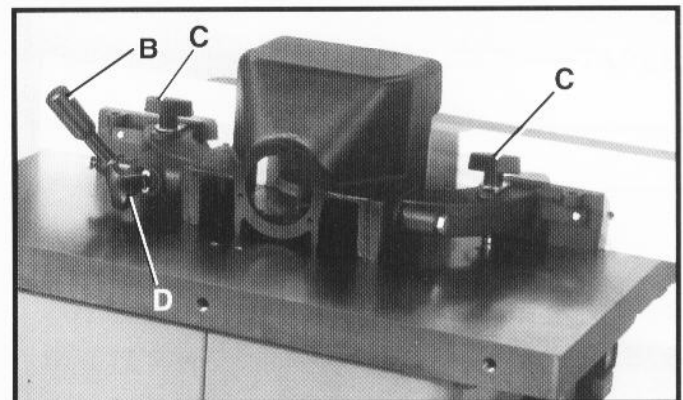

Fig. 25
Each section of the fence can be moved separately, in or out, depending on the type of shaping operation that is being performed. To move the fence, loosen lock handle (B) Fig. 25, and loosen one of the knobs (C), depending on which half of the fence is to be moved. Turn the knob (D), until the correct setting is obtained, then tighten the knob (C) and lock handle (B).
The lock handle (B) Fig. 25, is spring-loaded and can be repositioned by pulling out on the handle and repositioning it on the serrated nut located underneath the handle.